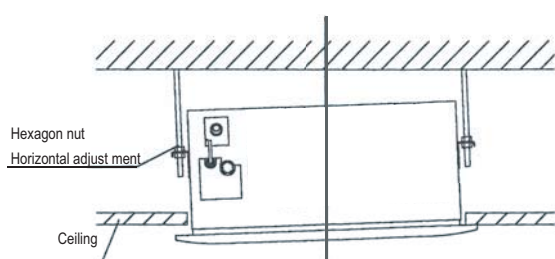

Fig.5-14
- If the gap between the panel and ceiling still exists after fastening the screws, the height of the indoor unit should be modified again. ( Refer to Fig.5-14-left)
- You can modify the height of the indoor unit through the openings on the panel's four corners, if the lift of the indoor unit and the drainpipe is not influenced (Refer to Fig.5-14-right).